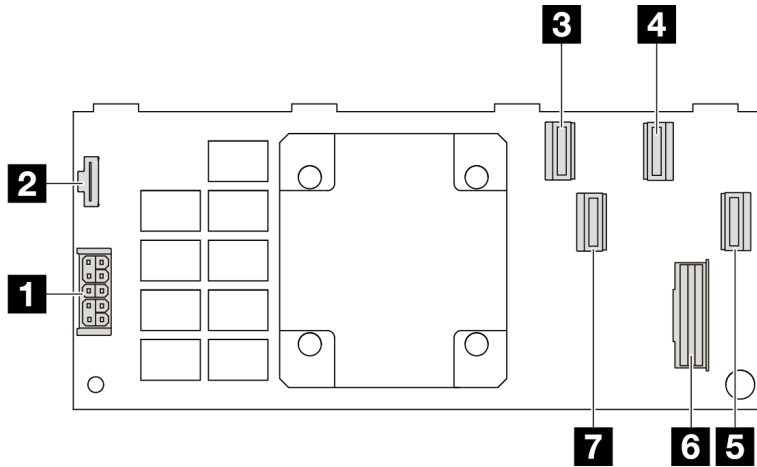

Figure 320. A Gen 4 16i CFF RAID adapter (four port connectors)
- Figure 320 “A Gen 4 16i CFF RAID adapter (four port connectors)” on page 343